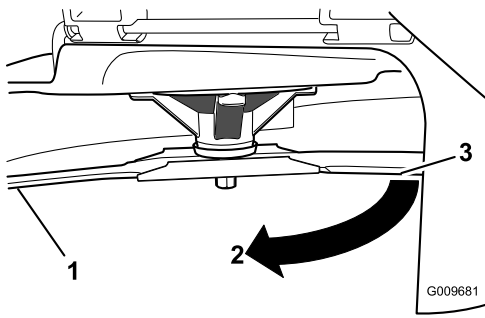

Figure 48
3. Measured distance between blade and the surface (A)
4. Rotate the same blade 180 degrees so that the opposing cutting edge is now in the same position (Figure 48).